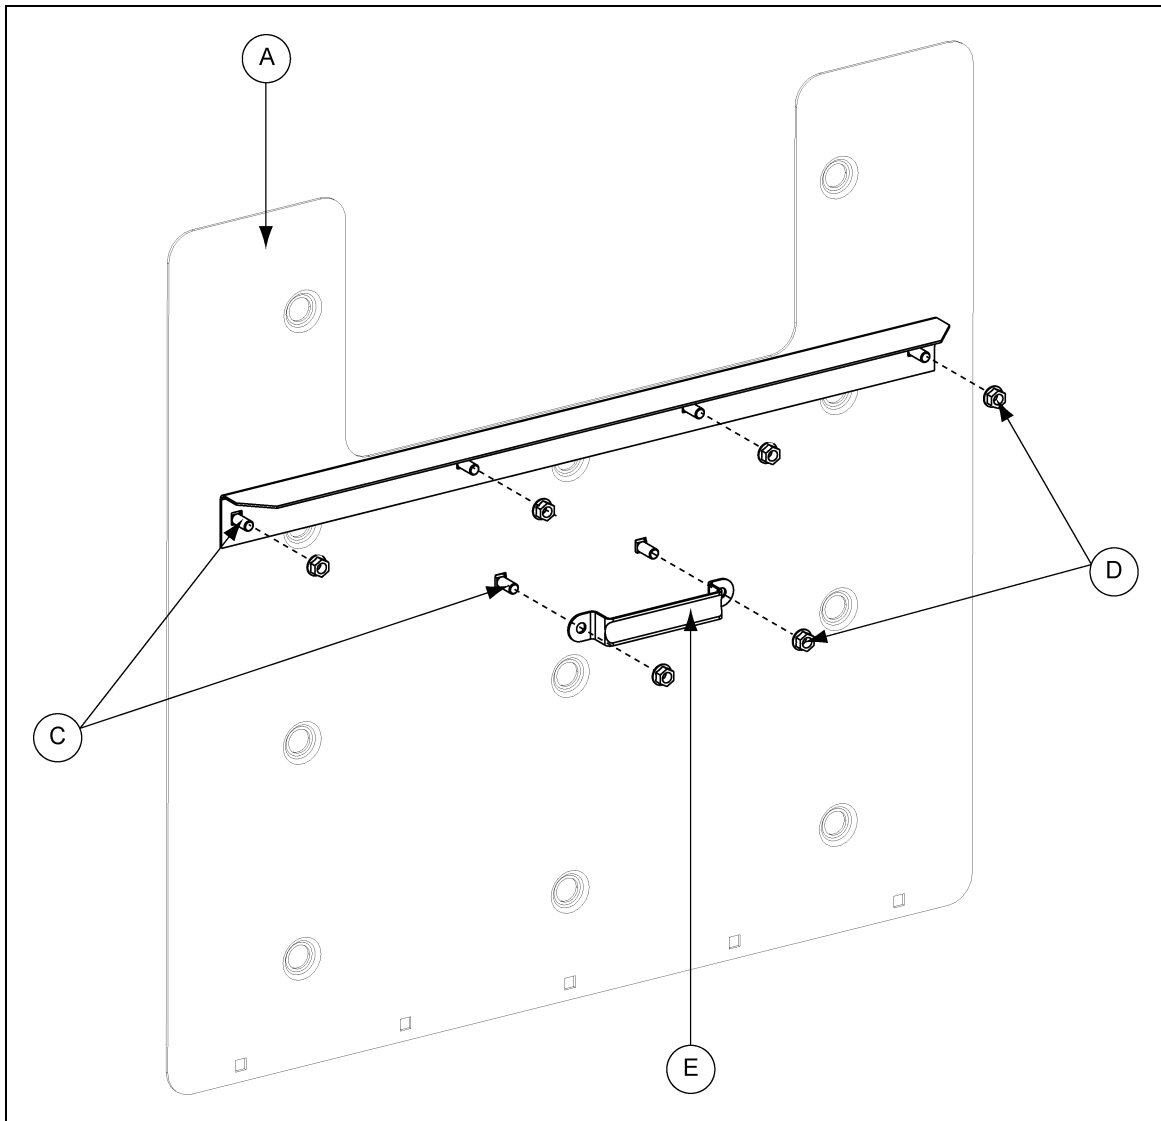

Figure 11B
2. Install hatch support (HP1624HS) to the bottom of the hatch door using 3/8" x 1" carriage bolts (S-3585) (C) and nuts (S-10028) (D). (See Figure 11B.)
3. Fasten peak cap handle (PR-331) (B) to the bottom of the hatch door using 3/8" x 1" carriage bolts (S-3585) (C) and nuts (S-10028) (D).